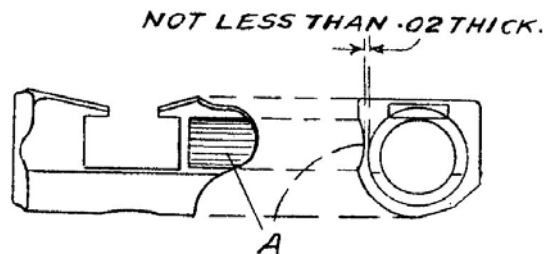

Fig. 4.
11. Fitting a No. 1 head to the windgauge screw of No. 1 "A" sight leaf—When fitting the No. 1 head to the windgauge screw of rifles fitted with slides of earlier manufacture, a radial groove is to be filed in the right rear side of the slide, at "A," Fig. 4, to give clearance to the No. 1 head, which is larger than the earlier pattern. The depth to which the groove is to be filed will be determined by trying the slide on the sight leaf (assembled with windgauge and screw with No. 1 head) until it can be set just below the 200 yards position.